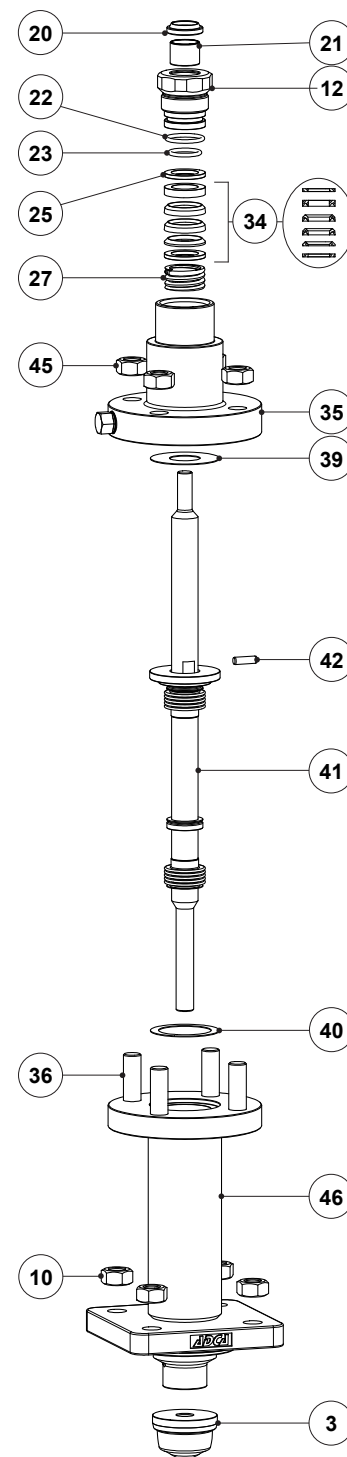

Fig. 12 - Bellows sealing (BV1)
1. Undo the nuts (45) gradually in a crisscross pattern and separate the bellows bonnet (35) from the bellows housing (46).
2. Unscrew the packing nut (12) and remove it carefully together with the O-rings (22, 23).
4. Apply a suitable lubricant to all steam-sealing components and carefully slide them into the packing box according to Fig. 12.
5. Renew the scraper ring (20), plain bearing (21), and O-rings (22, 23) if necessary. Fit the O-rings (22, 23) and the plain bearing (21), screwing it loosely.
6. Undo the nuts (10) gradually in a crisscross pattern and separate the bellows housing (46) from the valve body (1).
7. Firmly fix the valve plug (3) on a vise, fit a wrench on the two slits close to the locking pin (42), and unscrew the plug (3) from the stem (7).
8. Remove the valve stem (7) with the bellows (41) from the bellows housing (46).
10. Fix the new valve plug (3) on a vise with the thread facing up. The vise jaws should be gripping the plug section with the largest diameter.
11. Fit a new gasket (39) and insert the new bellows (41) on the bellows housing (46).
12. Apply a suitable high-temperature adhesive compound on the lower stem (7) thread and screw it onto the seat, tightening with 50 Nm (DN 15 to 50 – 1/2" to 2"), 120 Nm (DN 65 to 150 – 2 1/2" to 6") and 230 Nm (DN 200 – 8").
13. Insert the pin (42) onto the stem (7) and fit a new gasket (39).
14. Align the center of the bellows bonnet (35) with the stem (7), sliding it carefully while aligning the pin (42) with the slit.